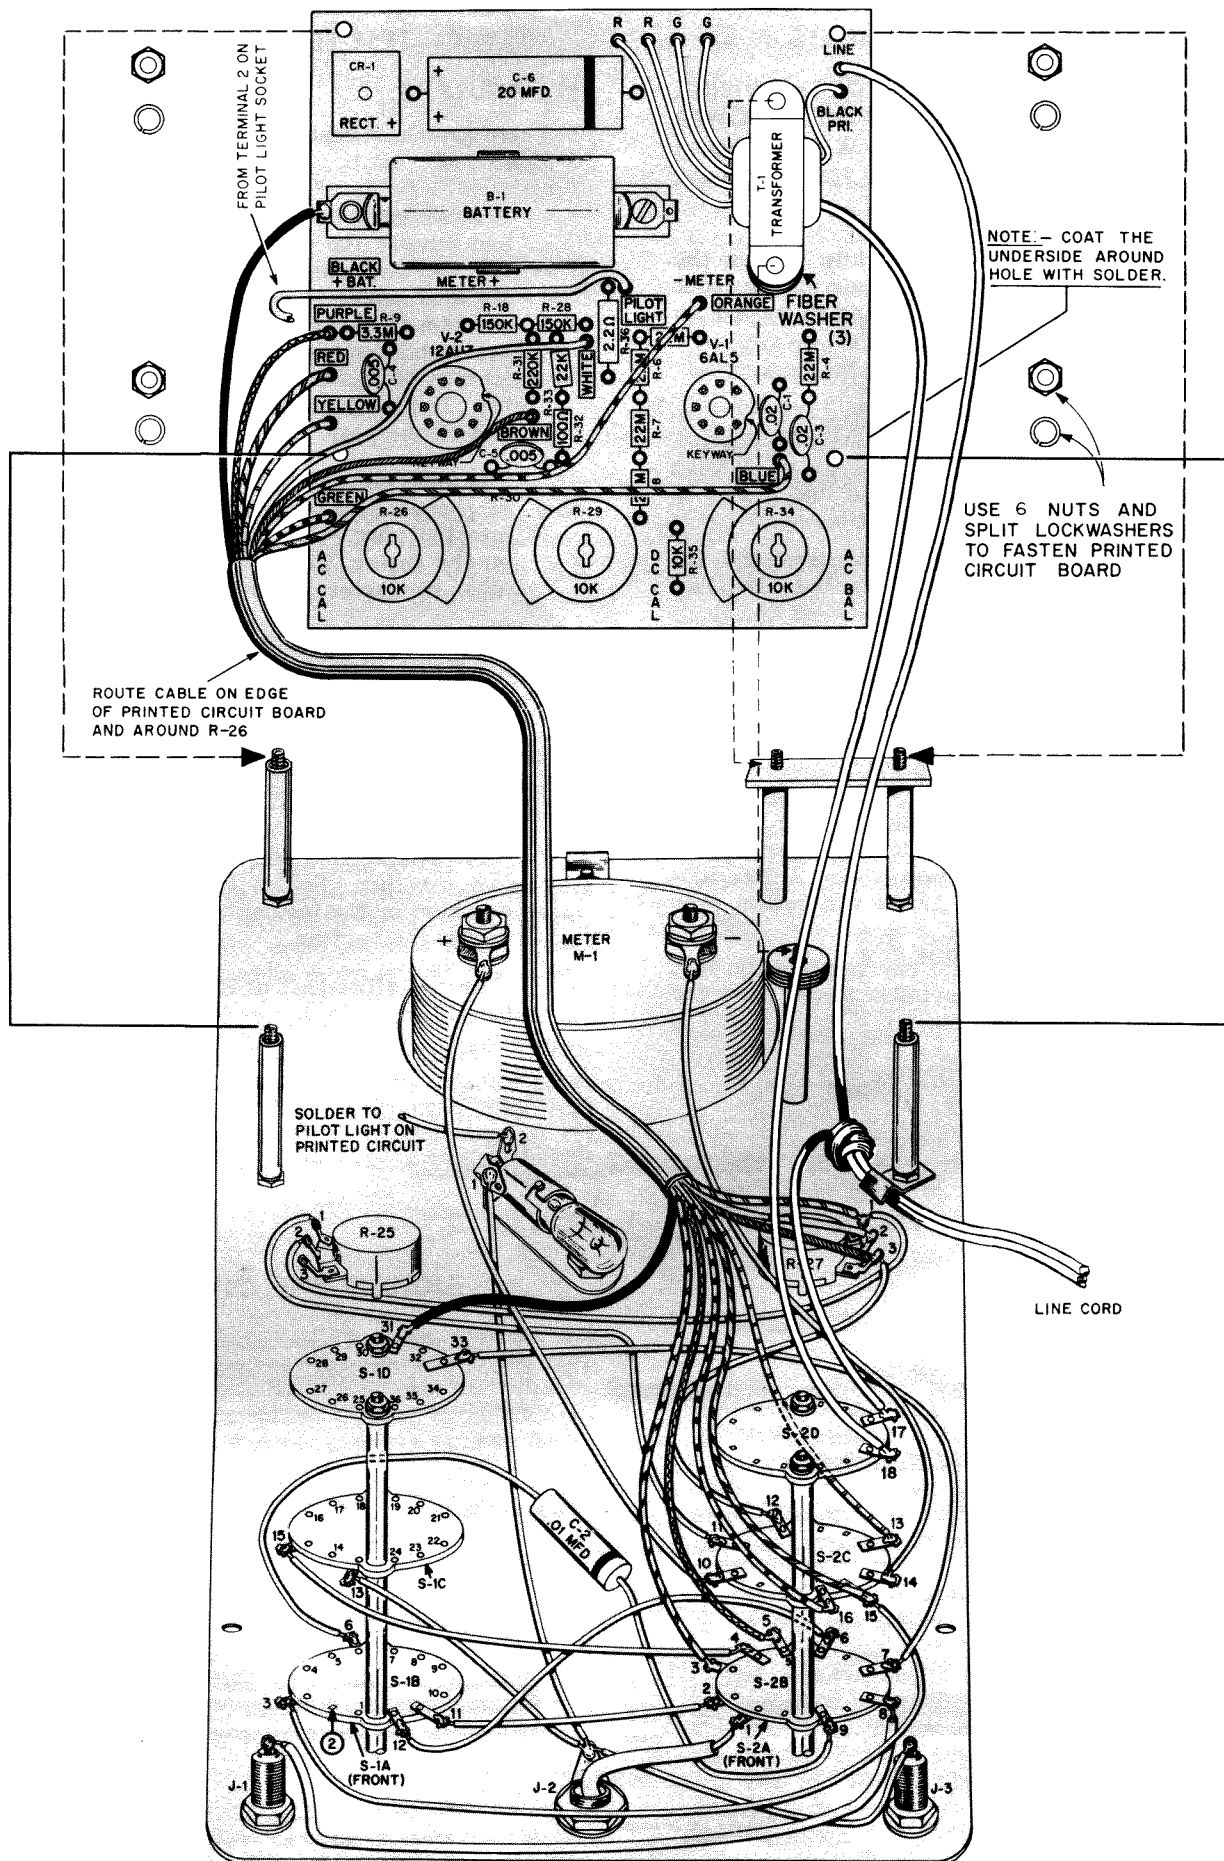

FIGURE 14. HOW TO MOUNT THE PRINTED CIRCUIT BOARD
SEE FIGURE 14
- () The printed circuit board will be mounted on six mounting screws. First place a large fiber washer on the single screw in the corner of the panel (upper left corner in Figure 14). Then mount the board on the six screws. Place another large fiber washer on top of the board, over the same corner screw. Secure the board with a split washer and nut on each of the four screws, as shown in Figure 14.